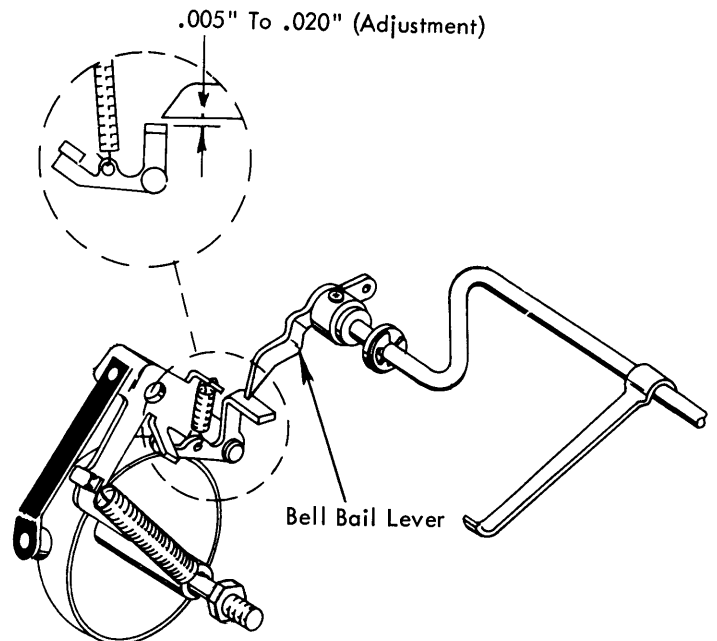

FIGURE 175. Bell Bail Lever (Old Style)
- a. Old Style - With the carrier positioned away from the right hand margin stop, adjust the bell bail lever located on the left end of the bellringer bail to have .005" to .020" clearance with the bell clapper bellcrank lever when the bail is at rest against the bellringer bellcrank (Fig. 175).